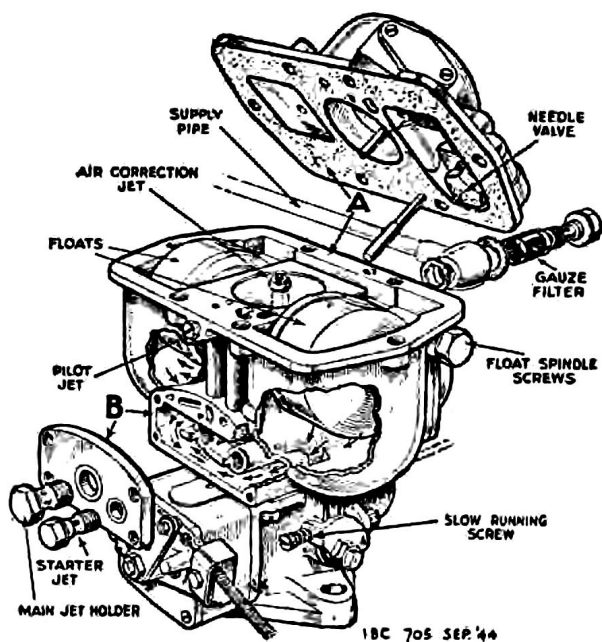
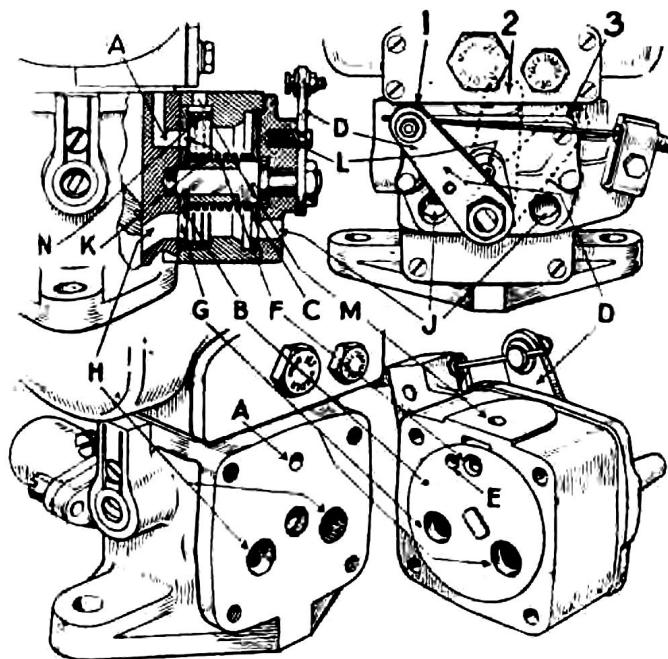
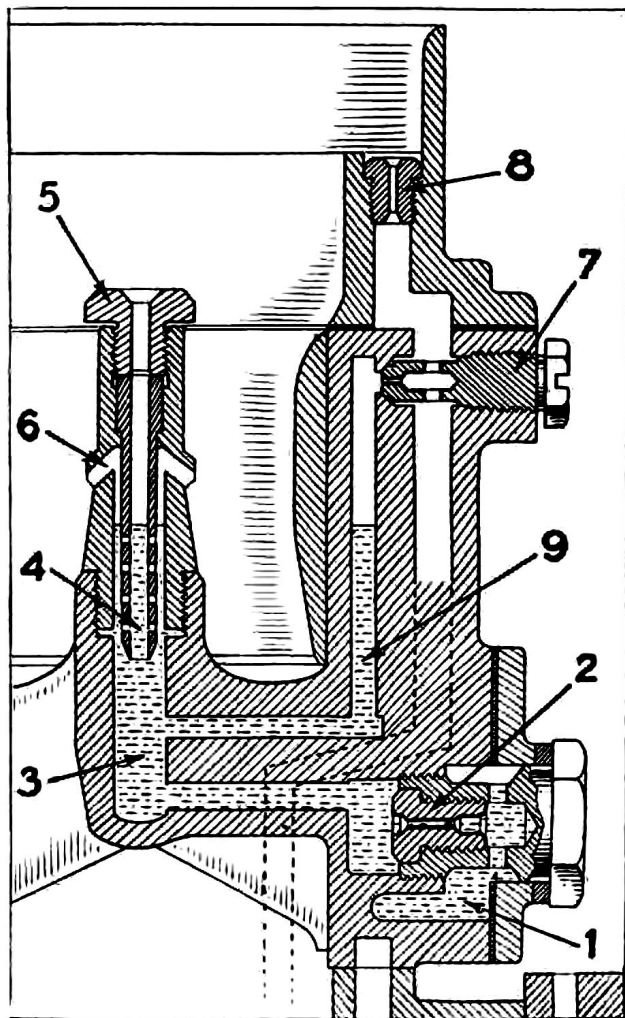

Fig. 35.—CARBURETTER FLOAT CHAMBERS.
Fig. 36.—STARTER CARBURETTER.
Fig. 37.—FUEL SUPPLY TO MAIN AND IDLING JETS.
The two float chambers are interconnected by means of an enclosed cavity formed by the side cover plate in which the main and starter jets are secured. The main jet assembly, which is supplied with petrol from the cavity, is therefore located mid-way between the two float chambers. (Fig. 35.)
Fig. 35 shows how petrol reaches the starter jet from the inter-connecting cavity between the two float chambers. Then the petrol passes through suitably drilled passages in the carburetter body, finally reaching the point (A) in Fig. 36.
When starting up the engine from cold in NORMAL weather the starter carburetter knob is pulled out to its first stop. This, in turn, pulls the lever (D) (Fig. 36) half-way through its arc of travel (2), where it is held by the spring-loaded ball (L). In this position the small hole (E) in the disc (B) registers with the fuel way (A), the holes (G) with the channels (H), and the holes in the disc (C) with the air jets (J).
Concerning the main fuel supply, petrol passes from the float chamber inter-connecting cavity (1) (Fig. 37), through the main jet (2) into the emulsion tube well (3). Thence it passes up the drilled emulsion tube (4), where it meets air entering via the correction jet (5). The resulting mixture passes through the six holes in the emulsion tube into the space between the tube and the wall of the petrol well. Opening of the throttle causes a high velocity air current through the choke tube, which draws the mixture upwards and into the air stream through the six radial holes (6), two of which are shown on Fig. 37.
Located immediately above the main jet holder (Fig. 35), the idling or pilot jet is easily removable without any dismantling of the carburettor. This jet (7) (Fig. 37) is supplied from the emulsion tube well by a small drilled channel (9). Above the pilot jet is the pilot air bleed (8), which provides a permanent source of air supply for the emulsion which, so formed, passes vertically downwards through the
The idling or pilot jet (7, Fig. 37) provides the restricted fuel mixture for "ticking over." A slow-running screw is mounted on the abutment plate of the throttle lever (Fig. 35). This limits the closing of the throttle and thereby determines the engine's idling speed. Screwing in this part increases engine speed, and screwing out has the opposite effect.